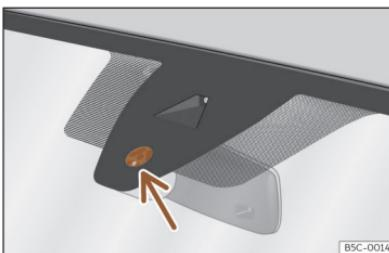

Fig. 98 Sensitive surface of the rain sensor.
The possible causes of anomalies and erroneous interpretations in the sensitive surface area >>> Fig. 98 of the rain sensor are, among others:
- Dirt:** dry dust, wax, coating on glass (Lotus effect) or traces of detergent (car wash) may reduce the effectiveness of the rain sensor or make it react more slowly, later or not at all. Regularly clean the sensitive surface of the rain sensor >>> Fig. 98 (arrow) and check for possible damage to the wiper blades.